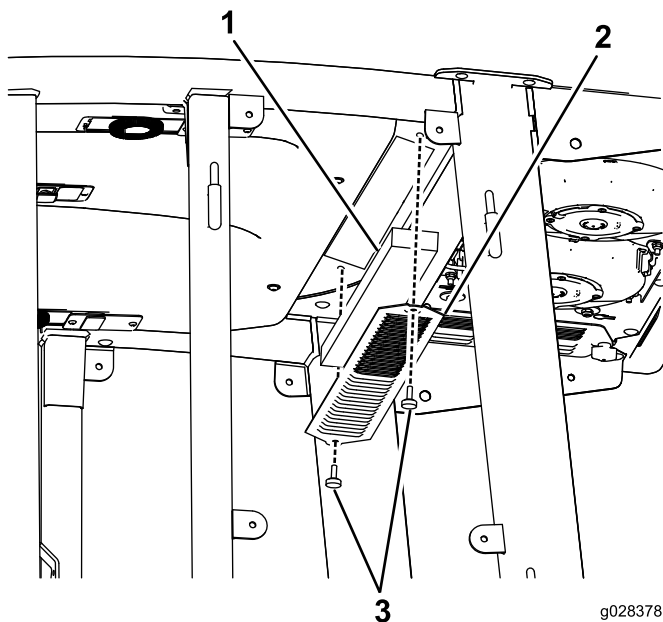

Figure 88
3. Remove the cabin roof of the cab by removing the 22 bolts that secure the roof (Figure 88).
4. Remove the air filters (Figure 88).
5. Remove and clean the air conditioning coils (Figure 88).